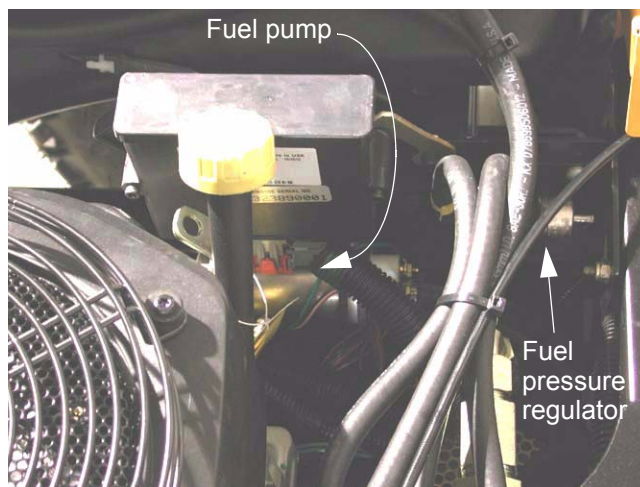

Figure 10.7
10.7. The pump sends pressurized fuel to the fuel pressure regulator. The regulator maintains a constant down-stream pressure of between 36 and 42 PSI. See Figure 10.7.